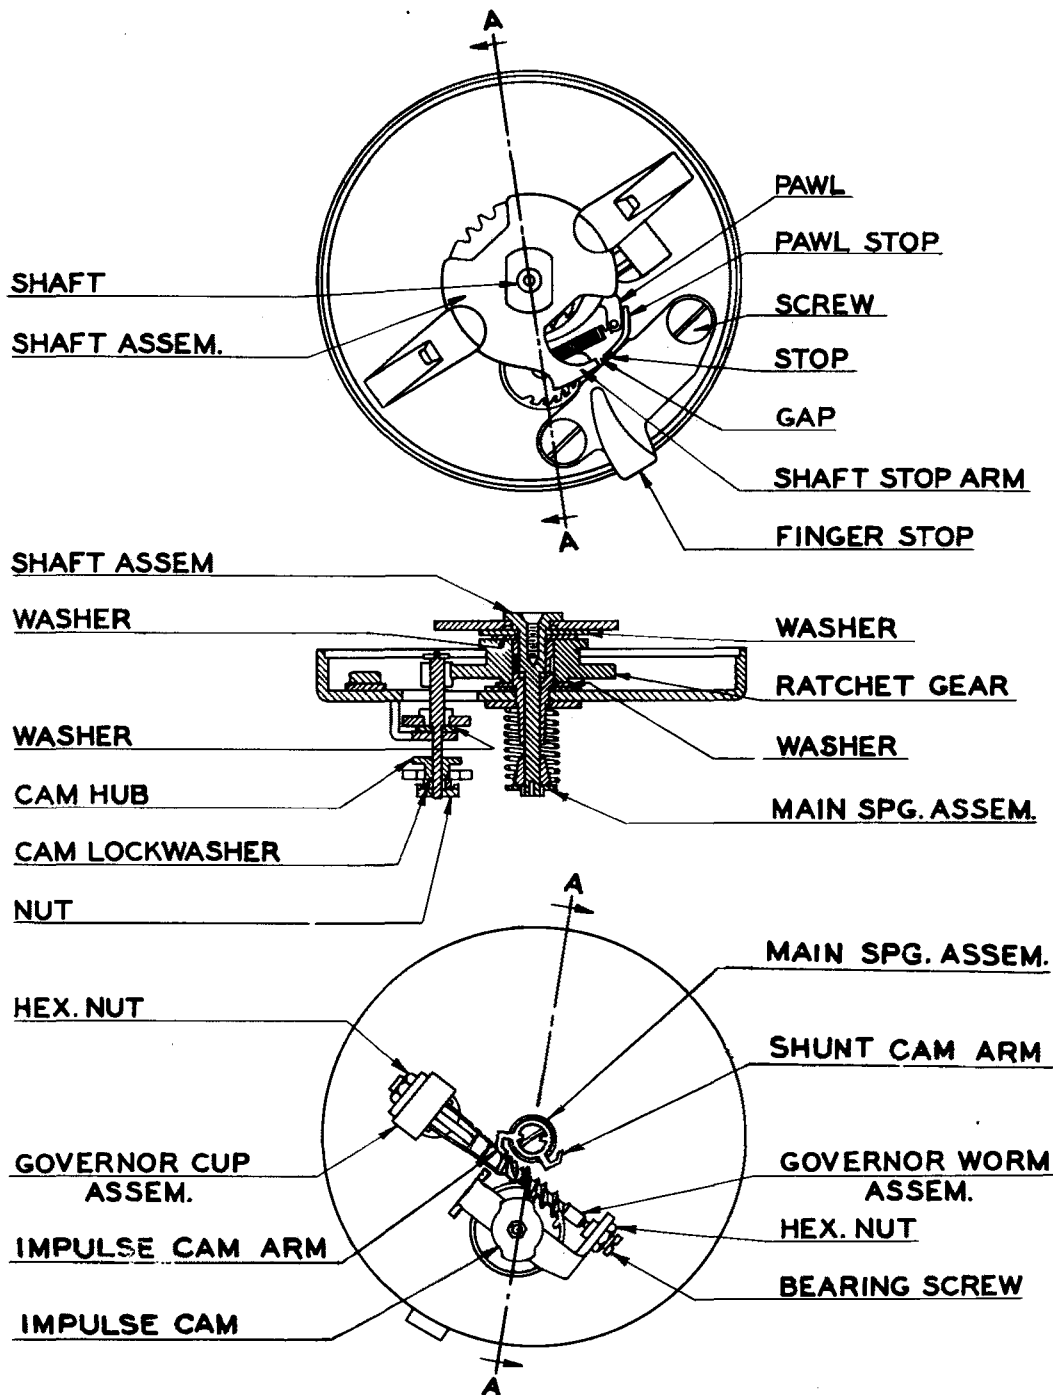

Fig. 9: Dial Sub-Assembly
g. Finger Stop (figure 9). -- The finger stop may now be removed by unfastening two screws.